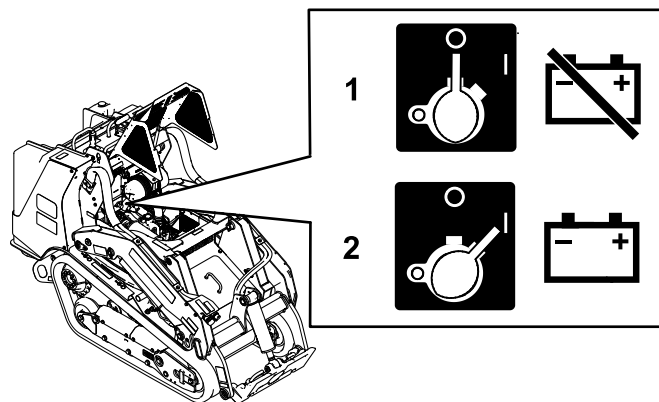

Figure 52
- To energize the machine electrically, rotate the battery-disconnect switch clockwise to the ON position (Figure 52).
- To de-energize the machine electrically, rotate the battery-disconnect switch counterclockwise to the OFF position (Figure 52).